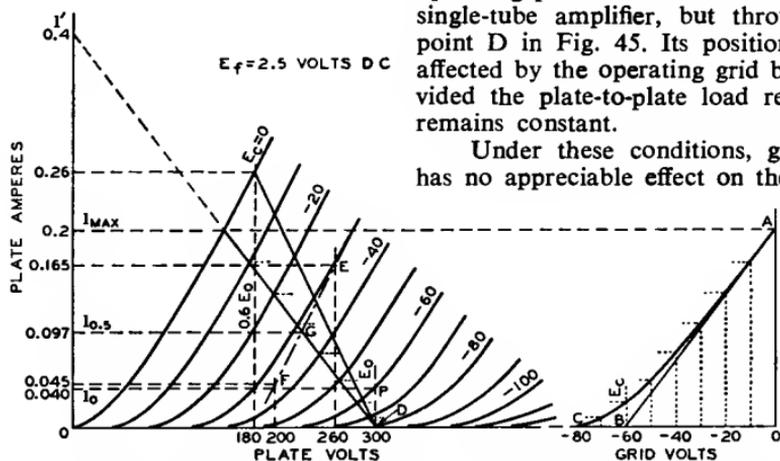

Fig. 45—Graphic calculations for class AB₁ amplifier using a power triode.
In class AB₁ push-pull amplifier service using triodes, the operating conditions may be determined graphically by means of the plate family if E_o , the desired operating plate voltage, is given. In this service, the dynamic load line does not pass through the operating point P as in the case of the single-tube amplifier, but through the point D in Fig. 45. Its position is not affected by the operating grid bias provided the plate-to-plate load resistance remains constant.
In general, for any load line through point D, Fig. 45, the plate-to-plate load resistance in ohms of a push-pull amplifier is $R_{pp} = 4E_o/I'$, where I' is the plate-current value in amperes at which the load line as projected intersects the plate-current axis, and E_o is in volts. This formula is another form of the one given under push-pull class A amplifiers, $R_{pp} = 4(E_o - 0.6E_o)/I_{max}$, but is more general. Power output = $(I_{max}/\sqrt{2})^2 \times R_{pp}/4$, where I_{max} is the peak plate current at zero grid volts for the load chosen. This formula simplified is $(I_{max})^2 \times R_{pp}/8$. The maximum-signal average plate current is $2I_{max}/\pi$ or $0.636 I_{max}$; the maximum-signal average power input is $0.636 I_{max} \times E_o$.
Example: Fig. 45 illustrates the application of this method to a pair of power triodes operated at $E_o = 300$ volts. Each tube has a plate-dissipation rating of 15 watts. The method is to
the plate family and the load line. Fig. 46 is a curve of instantaneous values of plate current and dc grid-bias voltages taken from Fig. 45. Values of grid bias are read from each of the grid-bias curves of Fig. 45 along the load line and are transferred to Fig. 46 to produce the curved line from A to C. A tangent to this curve, starting at A, is drawn to intersect the grid-voltage abscissa. The point of intersection, B, is the operating grid bias for fixed-bias operation. In the example, the bias is -60 volts. Refer back to the plate family at the operating conditions of plate volts = 300 and grid bias = -60 volts; the zero-signal plate current per tube is seen to be 0.04 ampere.
As in the case of the push-pull class A amplifier, the second-harmonic distortion in a class AB₁ amplifier using triodes is very small and is largely canceled by virtue of the push-pull connection. Third-harmonic distortion, however, which may be larger than permissible, can be found by means of composite characteristic curves. A complete family of curves can be plotted, but for the present purpose only the one corresponding to a grid bias of one-half the peak grid-voltage swing is needed. In the example, the peak grid voltage per tube is 60 volts, and the half value is 30 volts. The composite curve, since it is nearly a straight line, can be constructed with only two points (see Fig. 45). These two points are obtained from deviations above and below the operating grid and plate voltages.
These steps provide points at 260 volts and 0.165 ampere (E), and at 200 volts and 0.045 ampere (F). A straight line through these points is the composite curve for a bias of -30 volts, shown as a long-short dash line in Fig. 45. At the intersection of the composite curve and the load line, G, the instantaneous composite plate current at the point of one-half the peak signal swing is determined. This current value, designated $I_{0.5}$ and the peak plate current, I_{max} , are used in the following formula to find the peak value of the third-harmonic component of plate current.